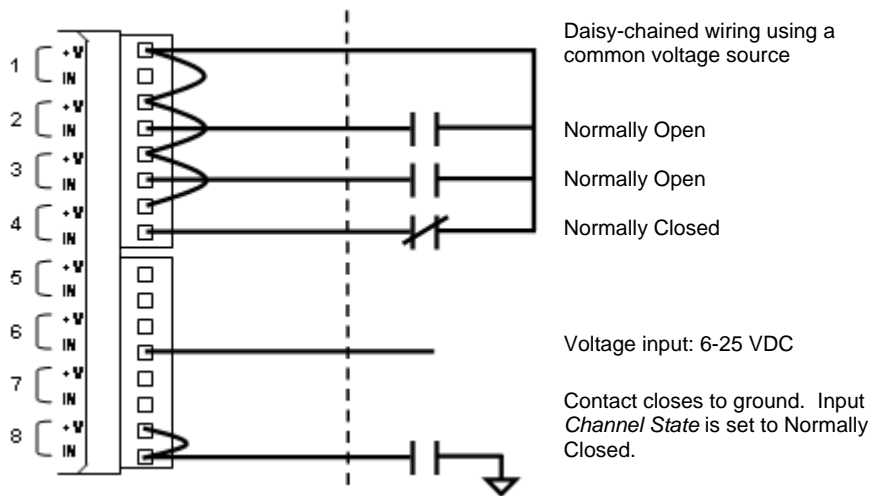

Figure 9 - Daisy-chained, direct voltage input and contact to ground wiring.
Notice that each connector has two (2) terminals, (IN) and (+V). If all of your inputs are originating from a location near each other, you can wire all of the (+V) signals together on the Elite connector and take a single (IN) signal to your sensors. See *Figure 9*.